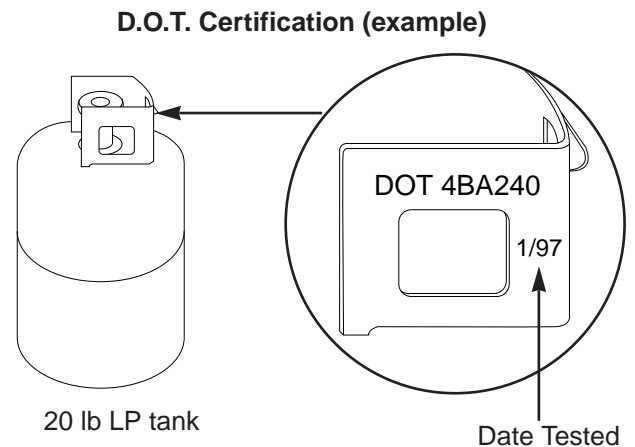

Figure 7
- Replacement LP tanks supplied by Weber satisfy the requirements. Check to be sure the tank has a D.O.T. certification, and has been tested within five years. Your LP gas supplier can do this for you. Figure 7.
- Hose to manifold connection. Figure 7 (a).
- Regulator to tank connection. Figure 7 (b).
- Valves to manifold connections. Figure 7 (c).
- The hose to regulator connection. Figure 7 (d).